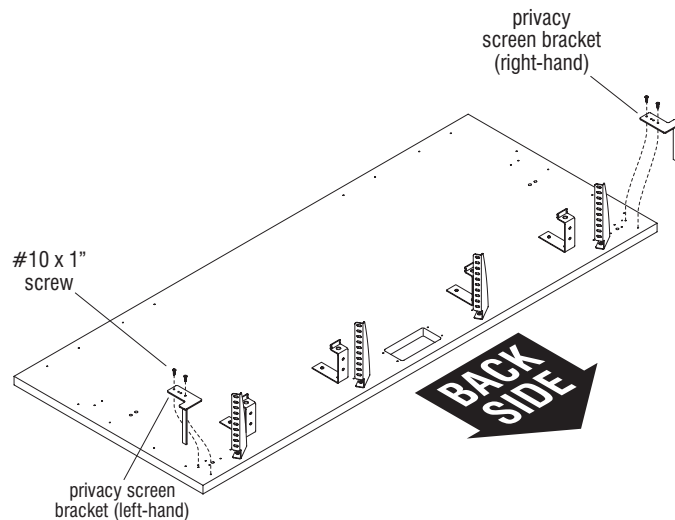

Figure 11 - Single-Sided Fixed Benching with Hardwired Electrical, Modesty Panels & Privacy Screens
2. If the Connection Zone being assembled includes privacy screens, privacy screen brackets must be installed at this time. Locate the pre-drilled mounting holes for the right-, left-hand & inline (if specified) privacy screen brackets at the underside of the worksurface. Secure each bracket using two #10 x 1" screws as illustrated (Figure 11).